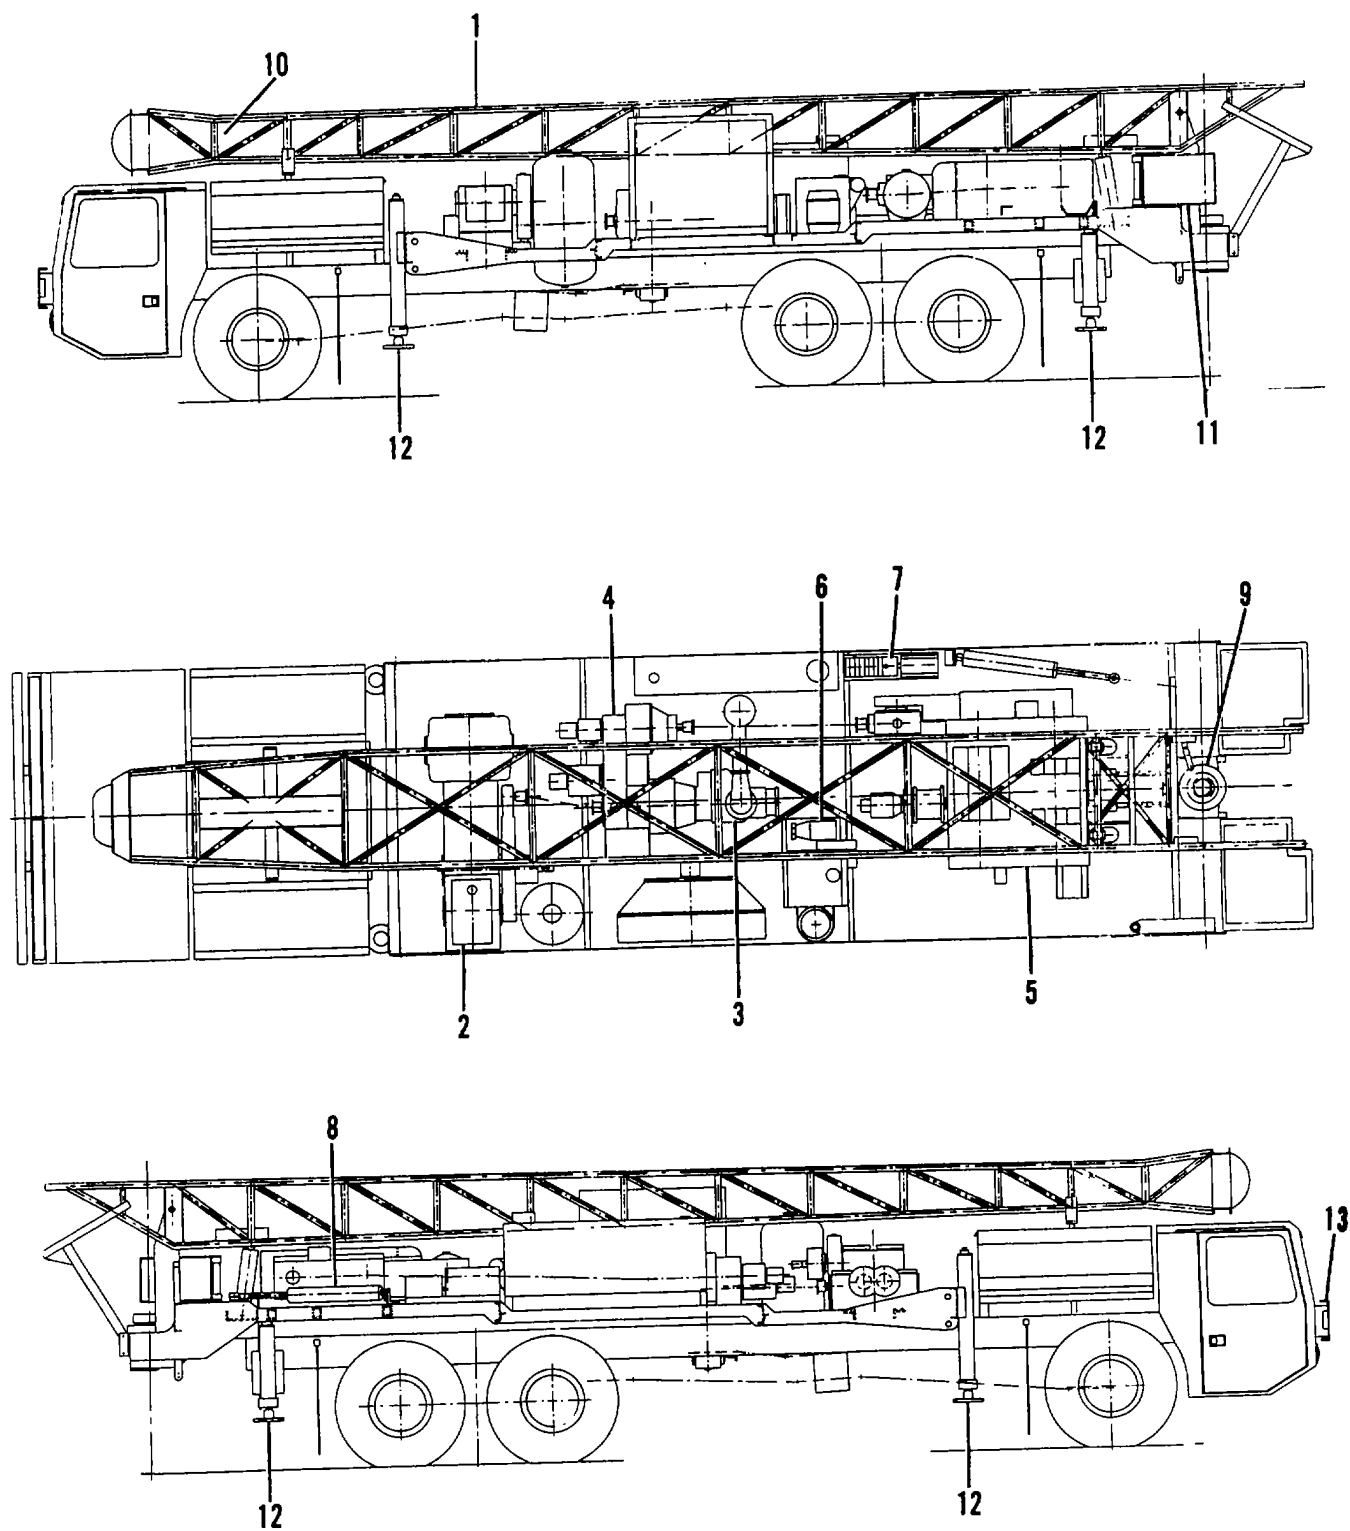

Figure 1-2. Drilling Rig Major Components
(1) Mast (1, Figure 1-2). The mast is mounted to mast pivot brackets at the rear of the drilling rig. Hydraulic cylinders raise and lower the mast to upright or transport positions. The mast's height (32') permits the use of 20' drill pipe or 20' lengths of casing. The mast is equipped with a chain feed, hydraulic-motor powered pulldown system for applying drilling pressure on the bit. A lighting system allows use of the drilling system at night.
(2) Mud Pump (2, Figure 1-2). The mud pump provides circulation of drilling fluid during drilling operations. It is a duplex, double-acting, piston-type pump with removable, hardened-steel cylinder liners. The pump is driveshaft driven from the sub-drive, by way of an air-clutch operated mud pump drive unit.
(3) Air Compressor (3, Figure 1-2). The air compressor provides air for air rotary drilling; it can also be used to supply air for drilling large diameter holes using the foam method. The compressor is powered from the sub-drive through an air clutch.
(4) Sub-Drive (4, Figure 1-2). The sub-drive assembly is a power transfer unit that receives power from the truck's power take-off. One side of the subdrive delivers power to drive the drawworks and the air compressor; the other side delivers power to drive the mud pump and the four hydraulic pumps used to deliver hydrostatic power to other rig systems.
(5) Drawworks (5, Figure 1-2). The drawworks consists of three cable drums used for lifting drilling components at the drilling site. The hoist drum supports the swivel, kelly, drill pipe, drill collars, and bits-elements that make up the "drill string." The auxiliary drum is used to handle drill pipe when adding joints of drill pipe to the drill string. These two drums have a relatively short length of cable, typically long enough for raising and lowering items the height of the mast. The third drum has much more cable, of smaller diameter, and is used to lower tools and instruments to the bottom of the hole. The drawworks is drive-shaft driven from the sub-drive, through a bevel gear box. Each drum is independently operated by an air clutch.
(6) Water/Foam Injection Pump (6, Figure 1-2). This pump system injects water and foam into the drilling system discharge line during certain drilling operations. It includes a high-pressure piston pump powered by a variable-speed hydraulic motor. Foam concentrates are injected into the water discharge line by a pulse pump, at a controlled rate.
(7) Force Feed Lubrication System (7, Figure 1-2). This system provides lubrication into the air discharge line to lubricate down-the-hole drilling tools. It includes a force feed pumping mechanism; it has two feeds and one check valve.
(8) Break-out Tool Assembly (8, Figure 1-2). This device consists of a wrench and a hydraulic cylinder. It provides a mechanical leverage to separate the drill pipe connections when the drill string is being removed from the hole.
(9) Rotary Drive and Rotary Table (9, Figure 1-2). The rotary table is driven by a hydraulic motor, through a 4-speed transmission and a drive shaft. These components work together to provide the rotating motion that is then transferred to the drill pipe, and therefore, to the drill bit.
(10) Pulldown and Chain Feed (10, Figure 1-2). This system, most of which is mounted on the mast, includes a hydraulic motor and a 2-speed transmission. Power from the motor/transmission is transferred to shaft sprockets, and then to the chain which spans the length of the mast. The chains connect to a yoke that is attached to the rotary swivel. When power is applied to the chains, pressure is transferred to the yoke, swivel, drill pipe, and subsequently, to the drill bit.
(11) Instruments (11, Figure 1-2). The controls needed to perform most of the drilling operations are located at the left rear corner of the drilling rig. Gages and indicators provide sight readings of the various conditions of components of the drilling rig. Some indicators and controls are located at other remote points around the drilling rig.
(12) Hydraulic Jacks (12, Figure 1-2). Four hydraulic cylinders and jack baseplates are mounted to the drill frame at each of the rig's four corners. Each cylinder is controlled, independent of the others, by hydraulic actuators on the operator's control panel. The removable baseplates include security chains. Ample blocking is provided to ensure rig stability in sandy locations.
(13) Winch Assembly (13, Figure 1-2). A hydraulically driven, 20, 000 pound capacity winch is mounted on the front bumper of the drilling rig truck. It is operated from inside the truck cab by an air-shift control. Normally, the winch is used for non-drilling related operations, such as pulling the drilling rig, or other vehicles, from difficult-terrain situations.
**c. Equipment Data.****(1) Mast.****DIMENSIONS:**